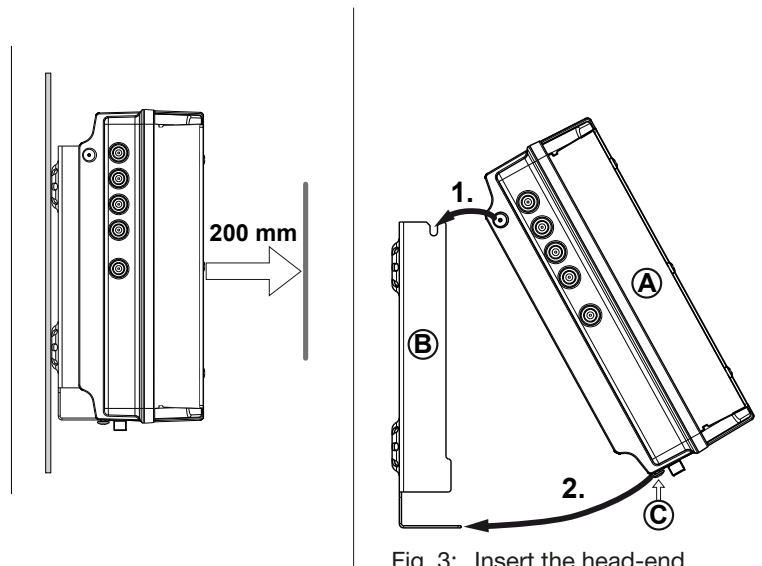

Fig. 3: Insert the head-end
1. Mount the wall mounting plate horizontally on the mounting surface; see Ⓑ in Fig. 3. Points to note:
2. Insert the head-end Ⓐ into the wall mounting plate Ⓑ; see Fig. 3.